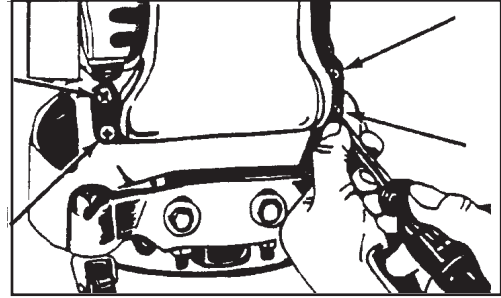

Figure 8
1. Remove the four screws that hold the exhaust pipe to the housing. See figure 8.